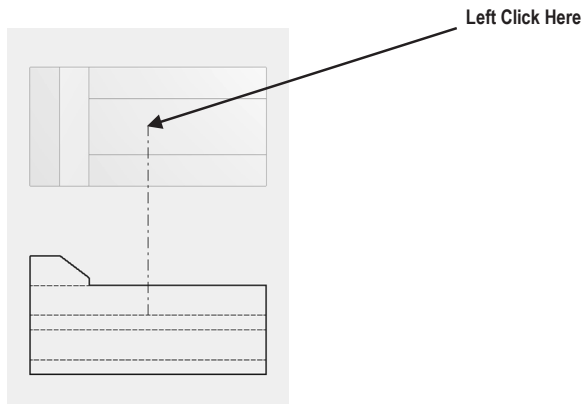

Figure 18
23. The part will be attached to the cursor. Move the cursor upward and left click as shown in Figure 18.